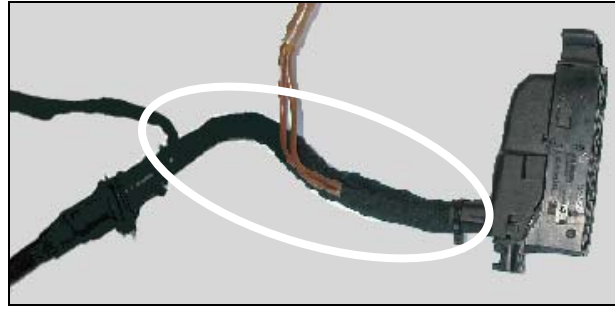

Figure 5
6. Remove fabric tape (circled area, Figure 5) from wire harness up to rubber grommet.